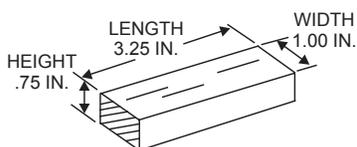
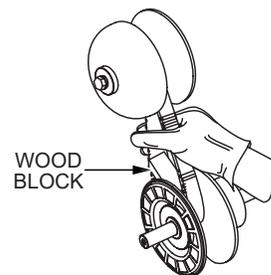

Figure 17. Wooden Block for Spacer
Figure 20. Wood Block
- Have a 3/4" x 1" x 3-1/4" wooden block (Figure 17) available.
3. Insert the wooden block (Figure 17) between the moveable face and the fixed face of the lower drive pulley. This will help keep the lower drive pulley faces open while installing the new drive belt. See Figure 20.